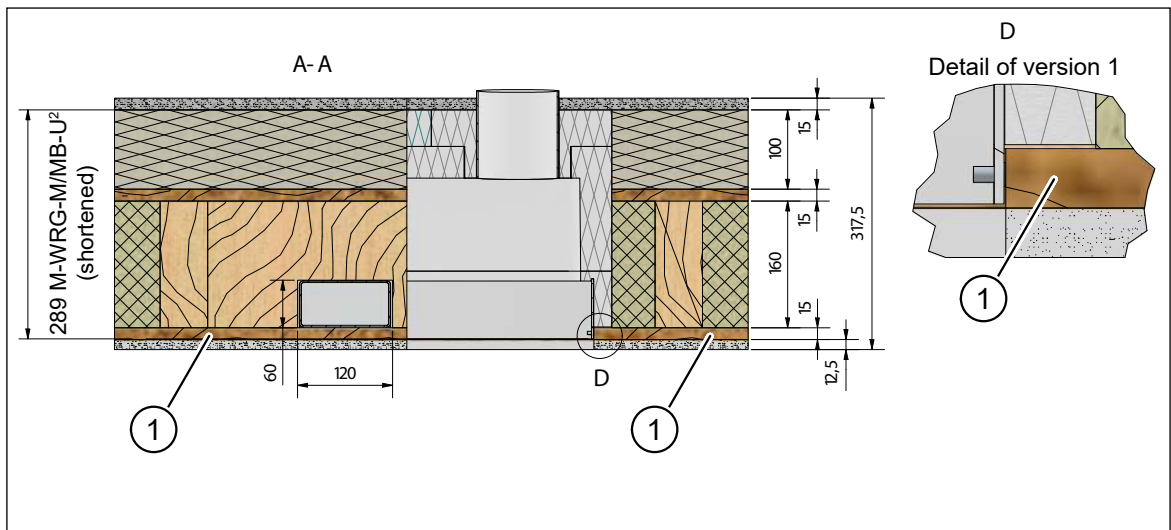

Fig. 53: Inner OSB board as the vapour barrier and airtight layer
The inner OSB board (item 1 in Fig. 53) is the vapour barrier and airtight layer. The OSB board must be connected to the wall box using a suitable and approved adhesive tape, e.g. Rissan® from SIGA.